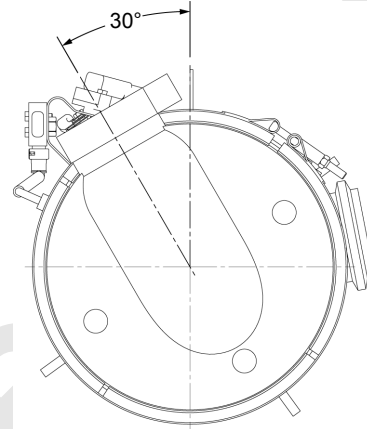

FIGURE 7-14
2. Using lifting chains and hoist, lift the DPF and position it in front support (19). Ensure the inlet and outlet are positioned correctly.
3. The DPF consists of inlet, center and outlet sections. Check the orientation of the sections as shown in Figure 7-13 and Figure 7-14. If not correct, the DPF sections will need to be reoriented (see Side Inlet Re-orientation procedure).
4. Connect the electrical connections and P-clamps (24) of the wiring harness to the DPF electrical connections.
5. Rotate outlet support (20) and inlet support (21) upward and fasten loosely to front cradle support (19) with hex-head capscrews (16), washers (17) and locknuts (18).
1. Remove p-clamps (24)
2. Loosen the V-band clamp (25) that holds the inlet section until the inlet section can be freely rotated around the center section of the DPF. Do not fully remove the clamp or gasket.
3. Rotate the inlet section to the orientation shown in Figure 7-13, View F and Figure 7-14.
4. Tighten V-band clamp (25) to a torque value of 14.8 ± 1.48 lb-ft ($20 \text{ Nm} \pm 2.0 \text{ Nm}$).
5. Using a rubber mallet, gently tap the circumference of the clamp to ensure proper seating of V-band clamp (25). Re-torque V-clamp to a value of 14.8 ± 1.48 lb-ft ($20 \text{ Nm} \pm 2.0 \text{ Nm}$).